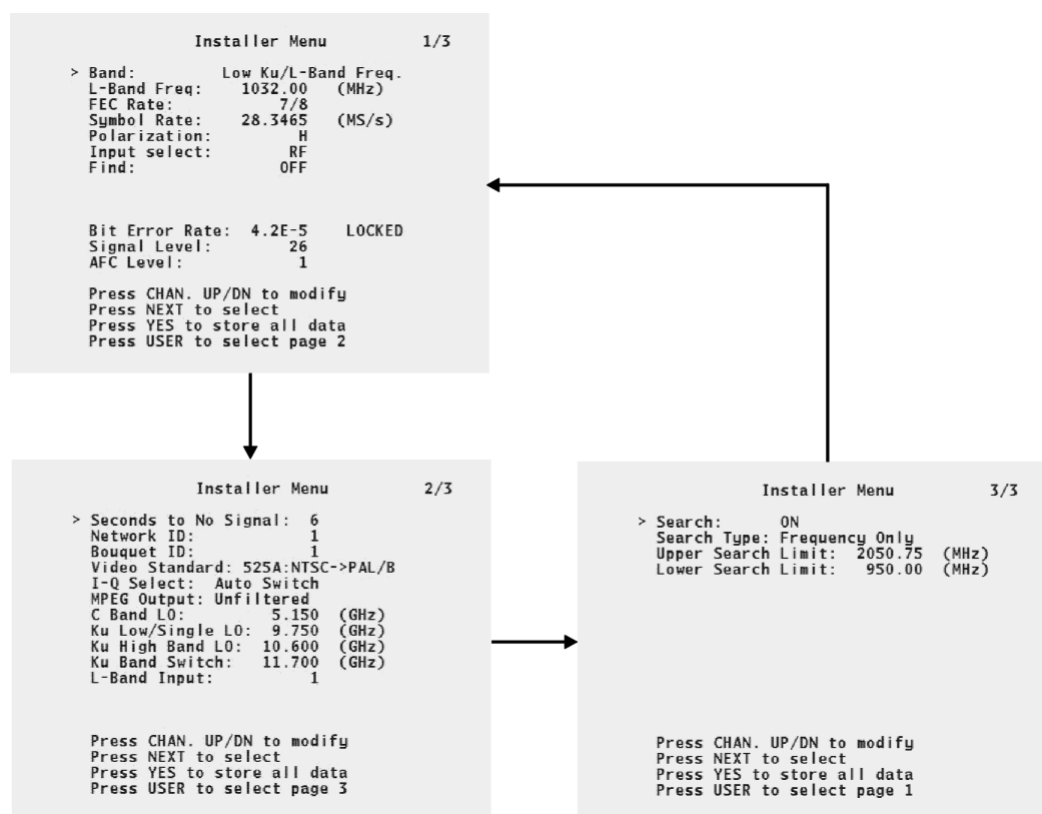

Figure 3-9. Installer menu (pages 1, 2 & 3)
- Step 1.** Press USER to display page 1 of the Installer menu, if required (see Figure 3-9).